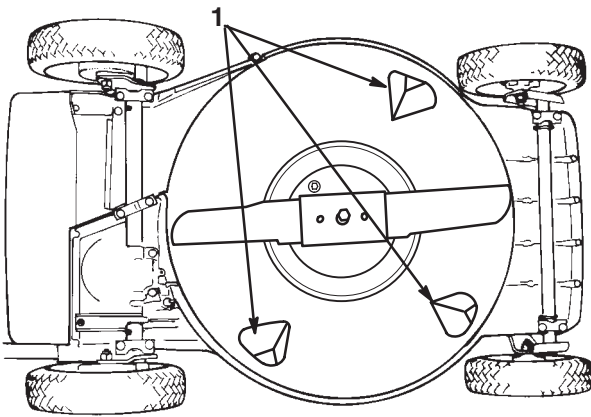

Figure 29
Keep underside of mower housing clean. Be especially careful to keep kickers free of debris (Fig. 29).
4. Tip mower on its left side (Fig. 29). Avoid rotating blade because starting problems may result.